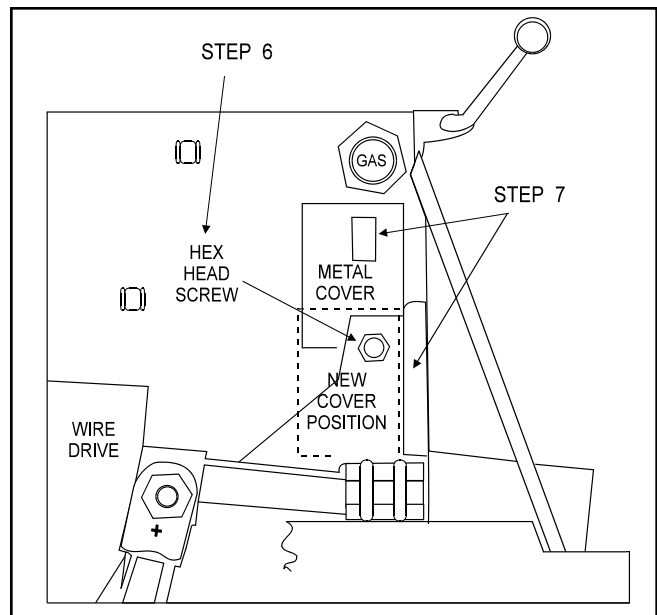

Figure C.1 - Spool Gun Installation.
See Figures C-1 and C-2.
6. On the wire drive side of the machine, remove the hex-head screw from beneath the gas connector releasing the metal cover. See Figure C-1.
7. Slide the metal cover out from behind the motor bracket. Flip the cover over so that the screw hole is in the top right corner, then reinstall as a spacer plate with the hex head screw. See Figure C-1.